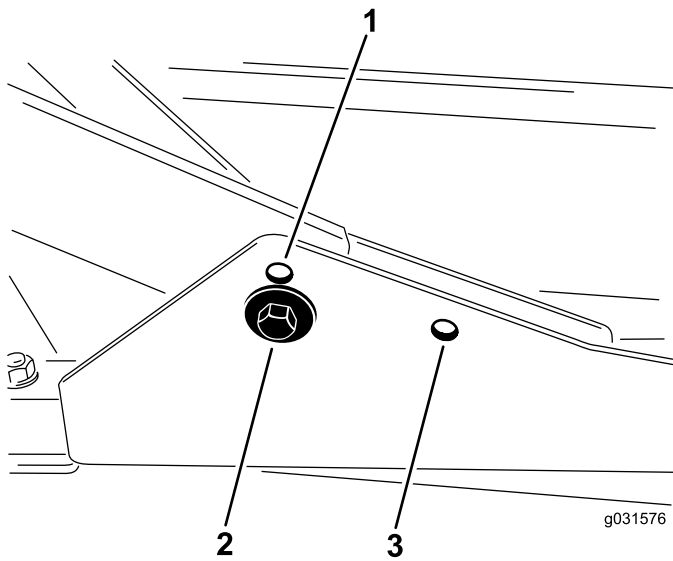

Figure 15
1. For heights of cut in the 2 to 7.6 cm (3/4 to 3 inches) range, mount the front carrier frames in the lower, front mounting holes (Figure 15).
2. For heights of cut in the 6.3 to 10 cm (2-1/2 to 4 inches) range, mount the front carrier frames in the upper, front mounting holes (Figure 15).
For all heights of cut, mount the rear cutting deck in the rear mounting holes (Figure 15).